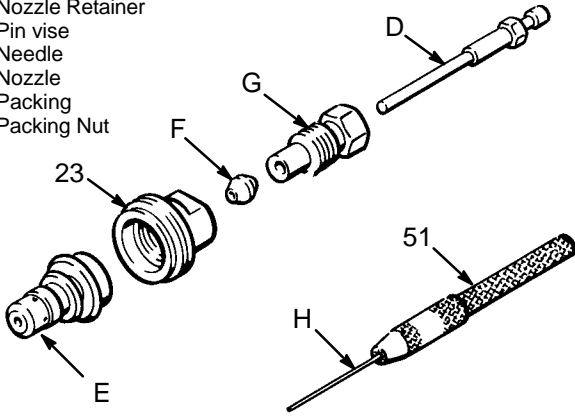

Fig. 3
The needle/nozzle kit includes the parts shown in Fig. 3, except the pin vise (51) which holds the cleaning pin (H), and the nozzle retainer (23).